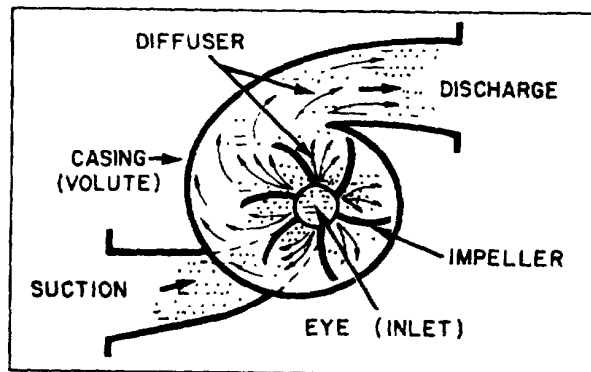

Figure 7-3.—Centrifugal pump flow.
**OPERATION.**—Liquid enters the rotating impeller on the suction side of the casing and enters the eye of the impeller (fig. 7-3). Liquid